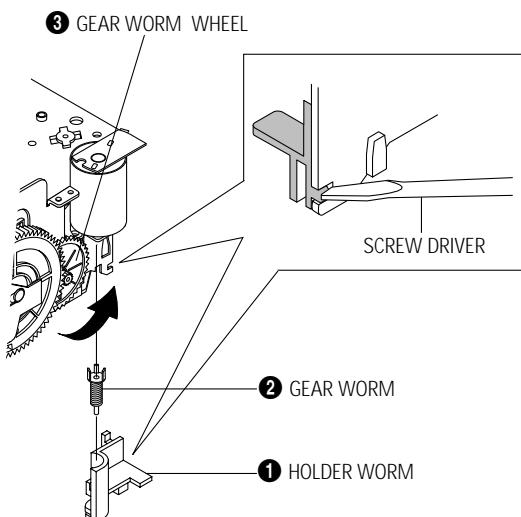

Fig. 2
- Remove the Holder Worm ① and the gear worm ②. (See Fig. 2)
- Turn the Gear Worm Wheel ③ counterclockwise in the direction of arrow with screw driver. (See Fig. 2)
- Rotate Gear Worm Wheel ③ counterclockwise using screw driver again up to the state of eject mode and then pick out the tape. (Refer to Fig. 2)